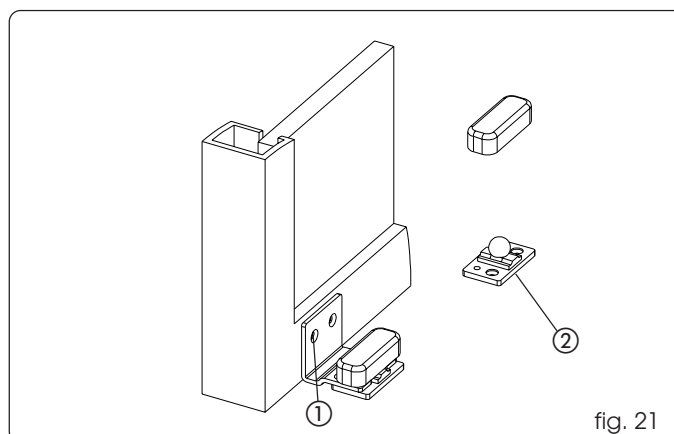

fig. 21
- Secure the slides as shown in fig. 21 ref. ①, using adequate screws.
- Directly secure the slide to the floor, as shown in fig. 21 ref. ②, using adequate expansion plugs and screws.